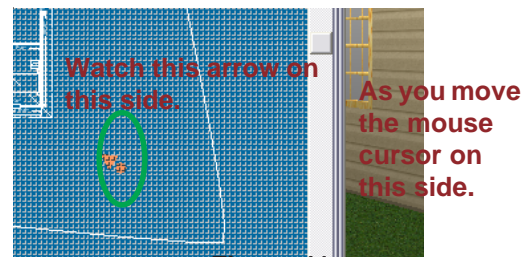

Figure 41
- Watch in the 2D view as you **move the mouse** around in the 3D view as shown in **figure 41**. The arrow in the 2D view is the direction you are headed as you walk through the house.